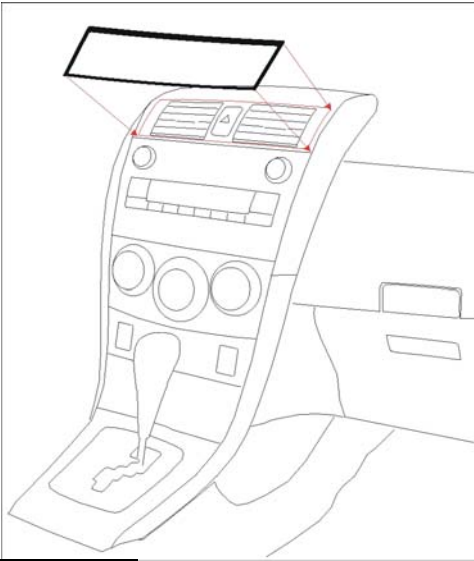

Fig. 3-1
- (b) Align part uniformly to the factory core part of the area in be installed. (Fig. 3-1)